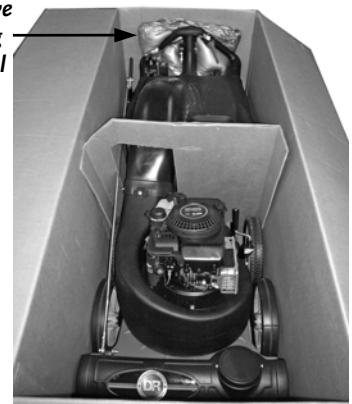

Figure 2
1. Using Pliers, carefully remove the staples from the top of the shipping carton and open the top (**Figure 2**). Be careful of the staples; they are sharp.
2. Remove the Protective Packing Material (**Figure 2**).